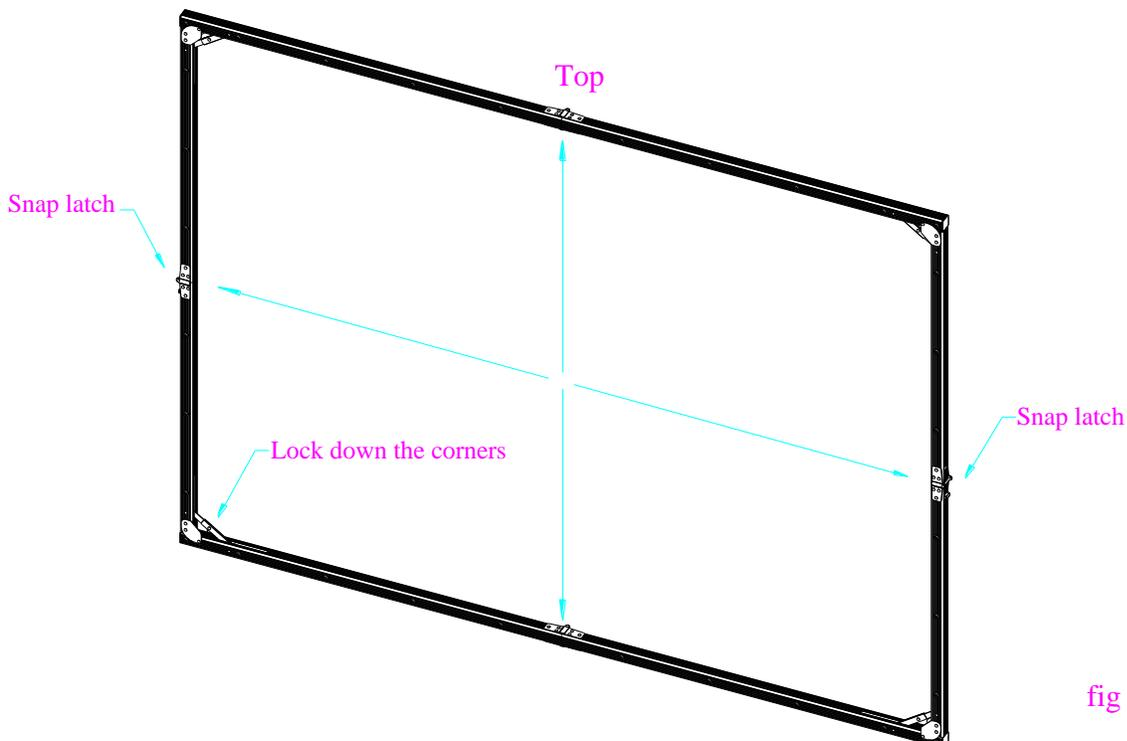

fig 3
3. While holding the bottom of the frame in place, lift the top of the frame to unfold the sides which will cause the snap latches lock when fully extended. Secure the corner braces into the locked position. The screen frame should now be fully opened as in (fig 3).